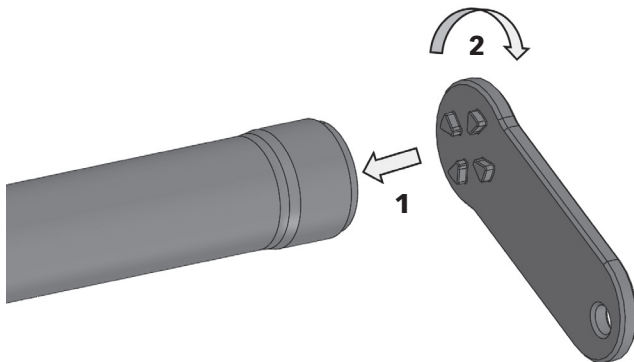

Fig. 4.1a
a. Using the provided tool, unscrew and remove the front end cap. The rear end cap is bonded to the suppressor tube and should not be removed (See Fig 4.1a).